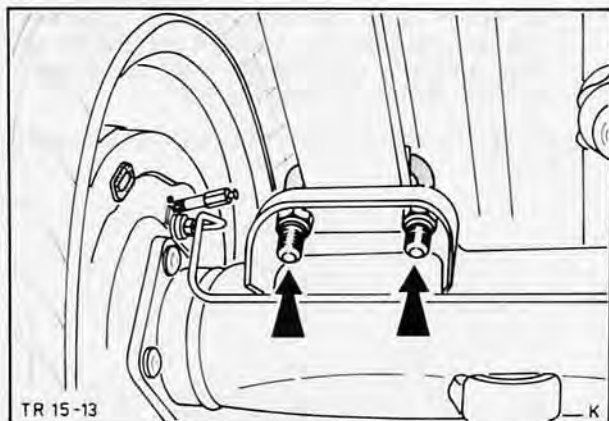

Fig. 19. Remove U-bolts
9. Remove spring U-bolts on left and right hand sides (4 nuts in each case), Fig. 19.